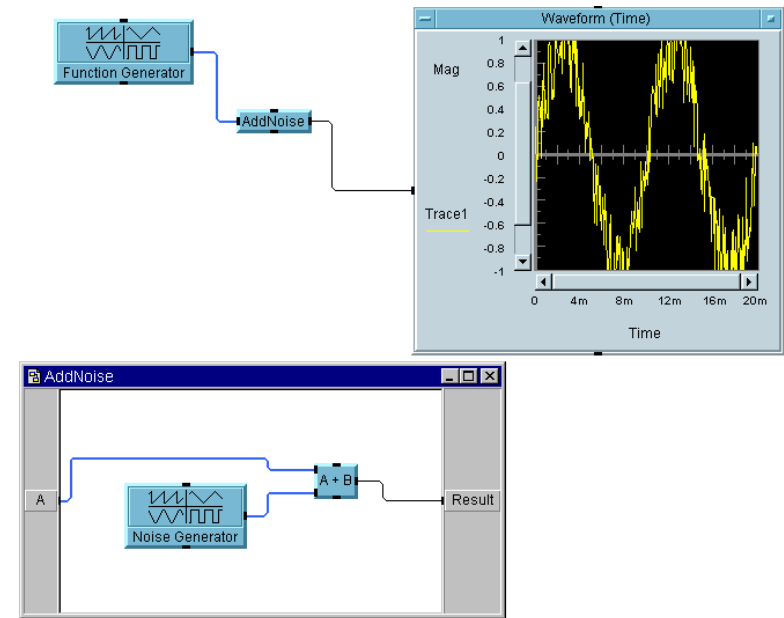

Figure 2-4. UserObject Renamed AddNoise
7. To help you keep track of the `UserObject`, change the title from `UserObject` to `AddNoise`. Double-click the title bar and enter the new title in the properties dialog box. Figure 2-4 shows how this makes the program easier to follow.